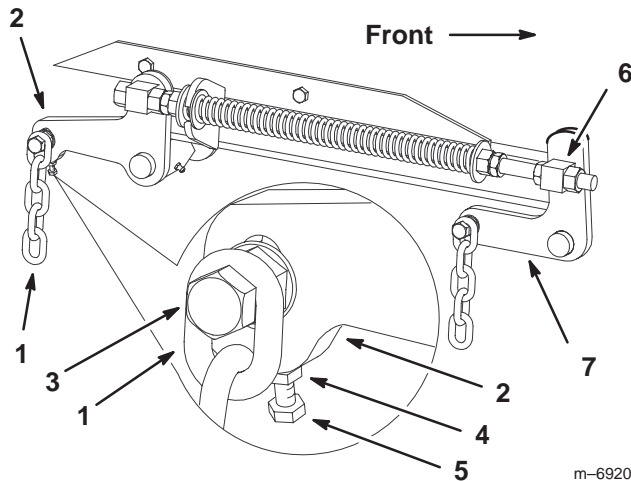

Figure 54
- If the measurements at positions **B** or **C** are not correct, loosen the bolt attaching the rear chain to the rear support arm (Fig. 54).